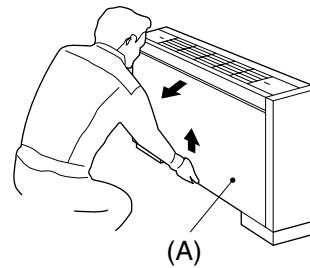

Fig.2
(2)Hold the bottom of the front panel with your hands,and gently lift it. The front panel should fall down forward.(Fig.2)